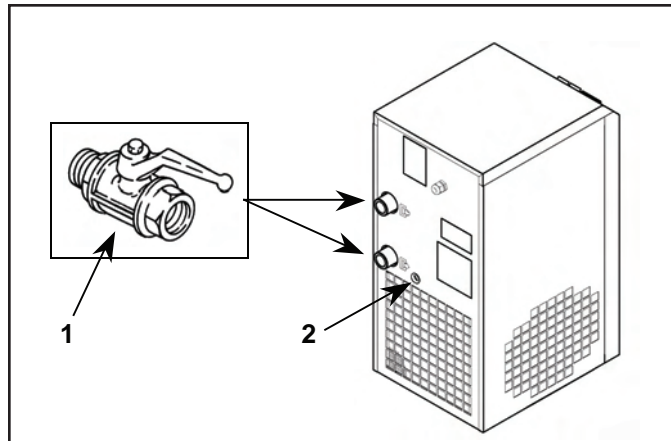

**FIGURE 5 — INSTALLATION**
1. Ensure that there is sufficient space around the machine to allow maintenance (see Fig. 5).
3. Dryer must be wired to the power supply through a fused disconnect switch or circuit breaker in accordance with national and local electrical codes to protect against overcurrents, with ground-fault circuit interrupter protection, if required by local codes (see Figure 5).